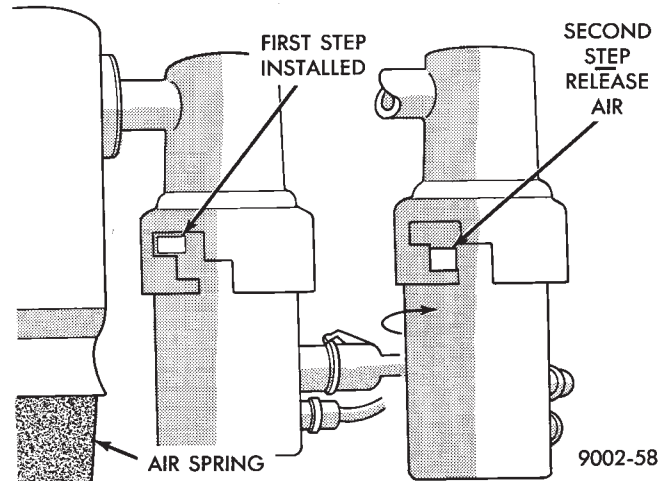

Fig. 15 Release Air Pressure
(4) Rotate solenoid to first step in housing and allow air pressure to vent (Fig. 15).